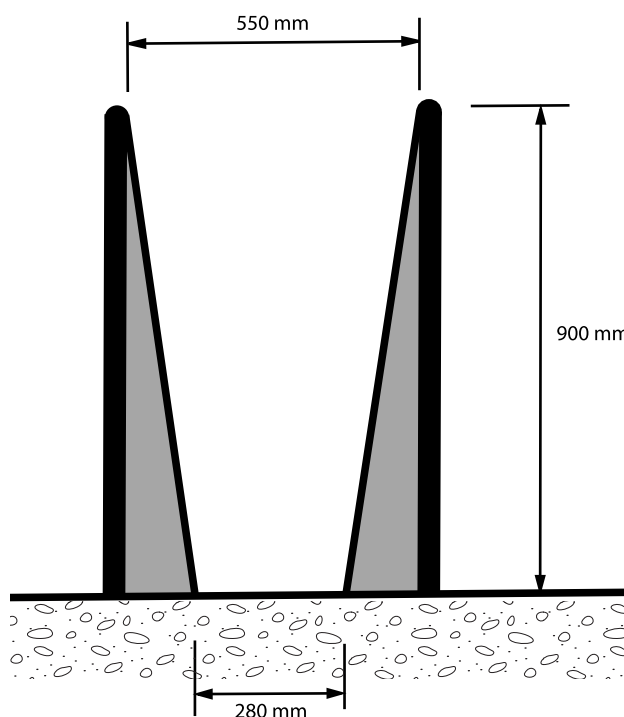

Figure 2. Cross section of a drafting race with inclined sides. The design encourages smooth sheep flow.
- Inclined sides in a 'V' shape works well with a range of sheep sizes and prevent sheep turning as their feet are close together. The race should be 280 mm wide at the base, 550 mm wide at the top and 900 mm high (Figure 2). A vertical sided race would be 450 mm wide.